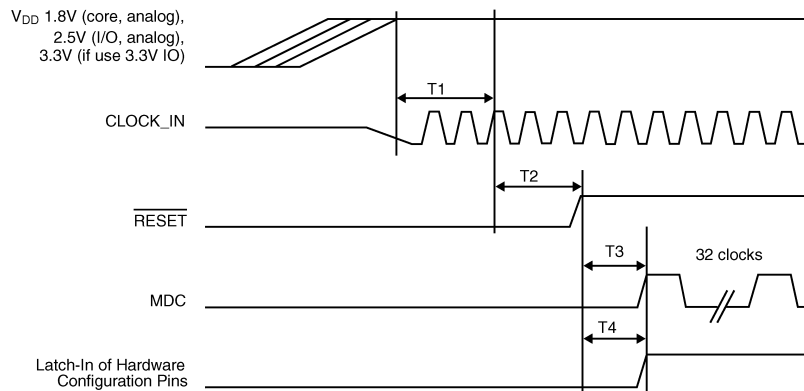

Figure 3. Reset Timing. T1 = 0+μs; T2 = 150 μs; T3 = T4 = 20 ms
2. Internal initialization time: After the GPHY coming out of the reset, it takes at least 20 ms to complete the internal initialization. No MDIO management access should be performed immediately after reset (Figure 3). Any attempt to access the internal register through management MIO port immediately after reset may cause the GPHY to malfunction.